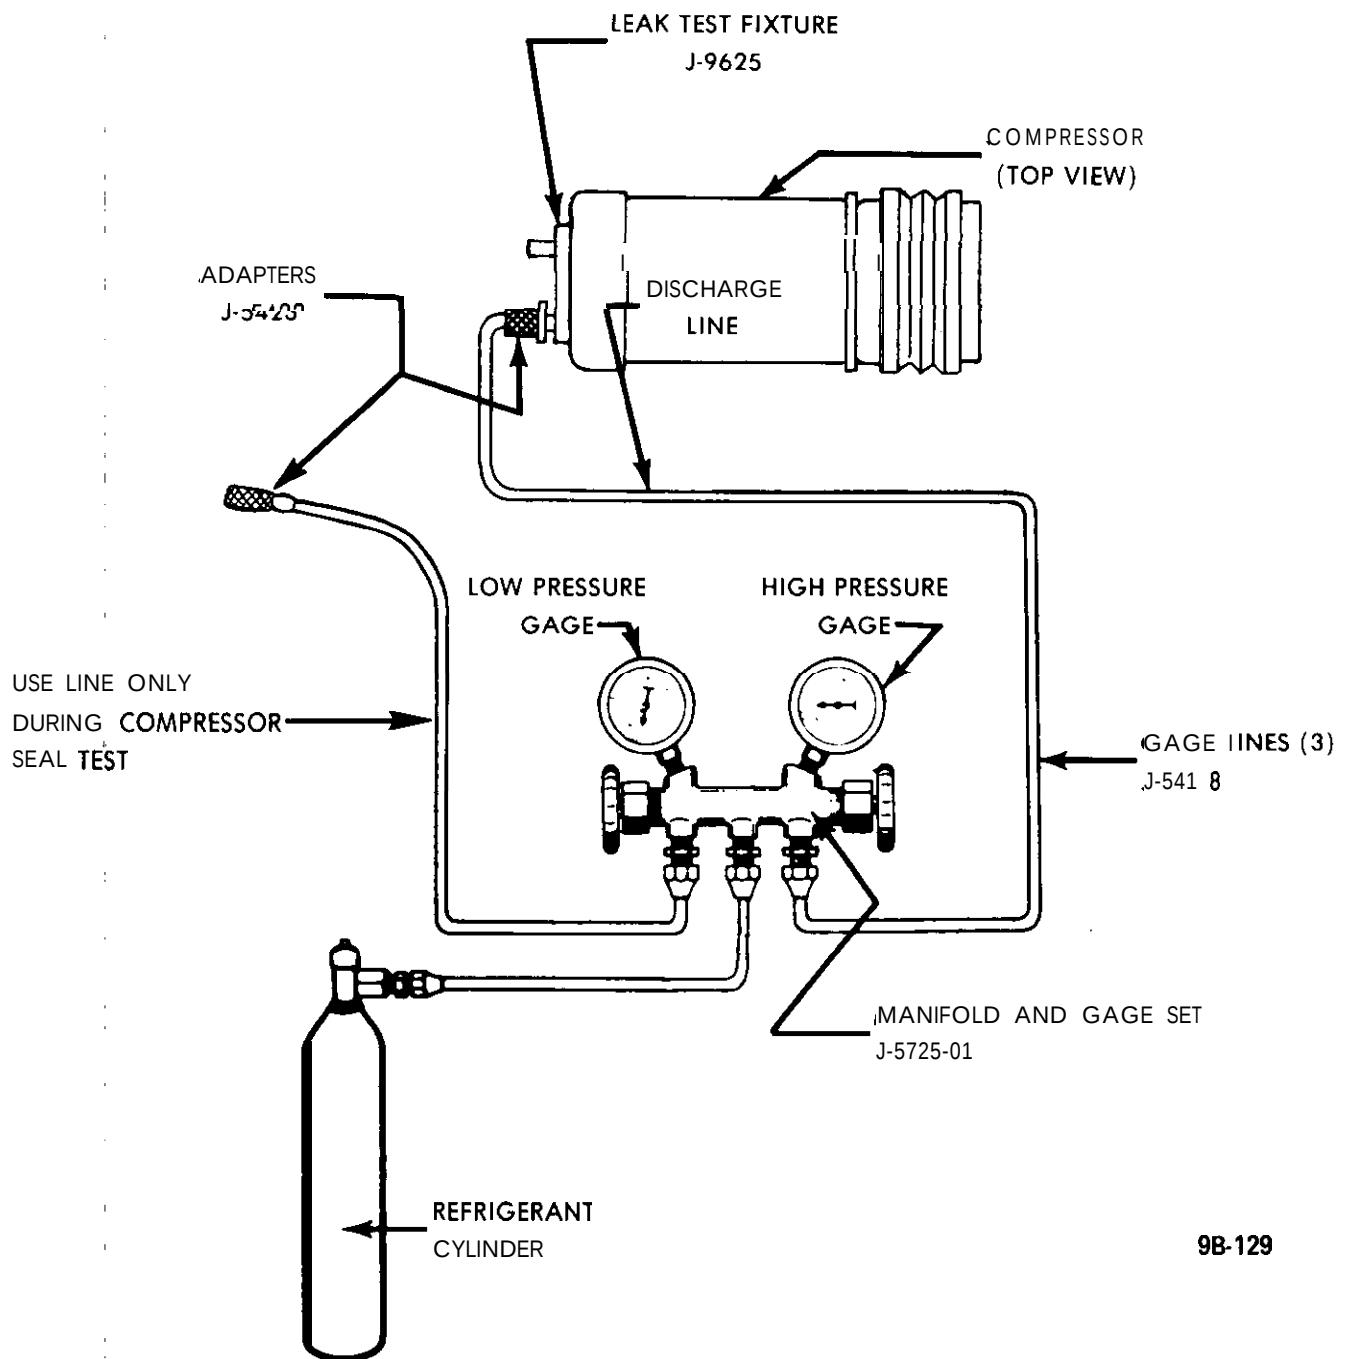

Figure 9B-160 Compressor Infernal Leak Test
5. Complete reassembly by installing clutch drive plate onto hub of front head. See Figure 9B-164 **disassembled view of compressor**.